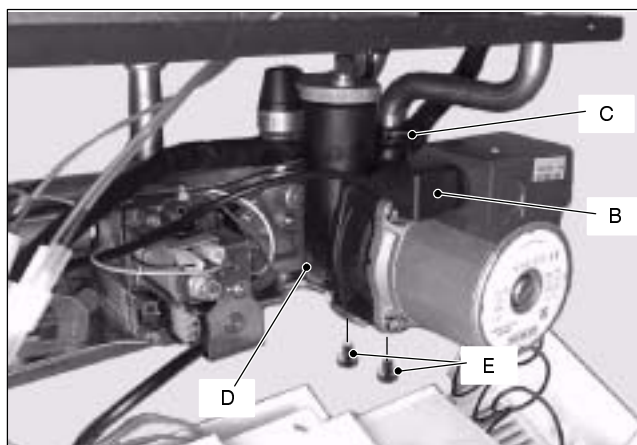

Fig. 19
With the boiler off, remove the front panel and disconnect the connector B (Fig. 19).
- 4 Disconnect the connector B (Fig. 19).